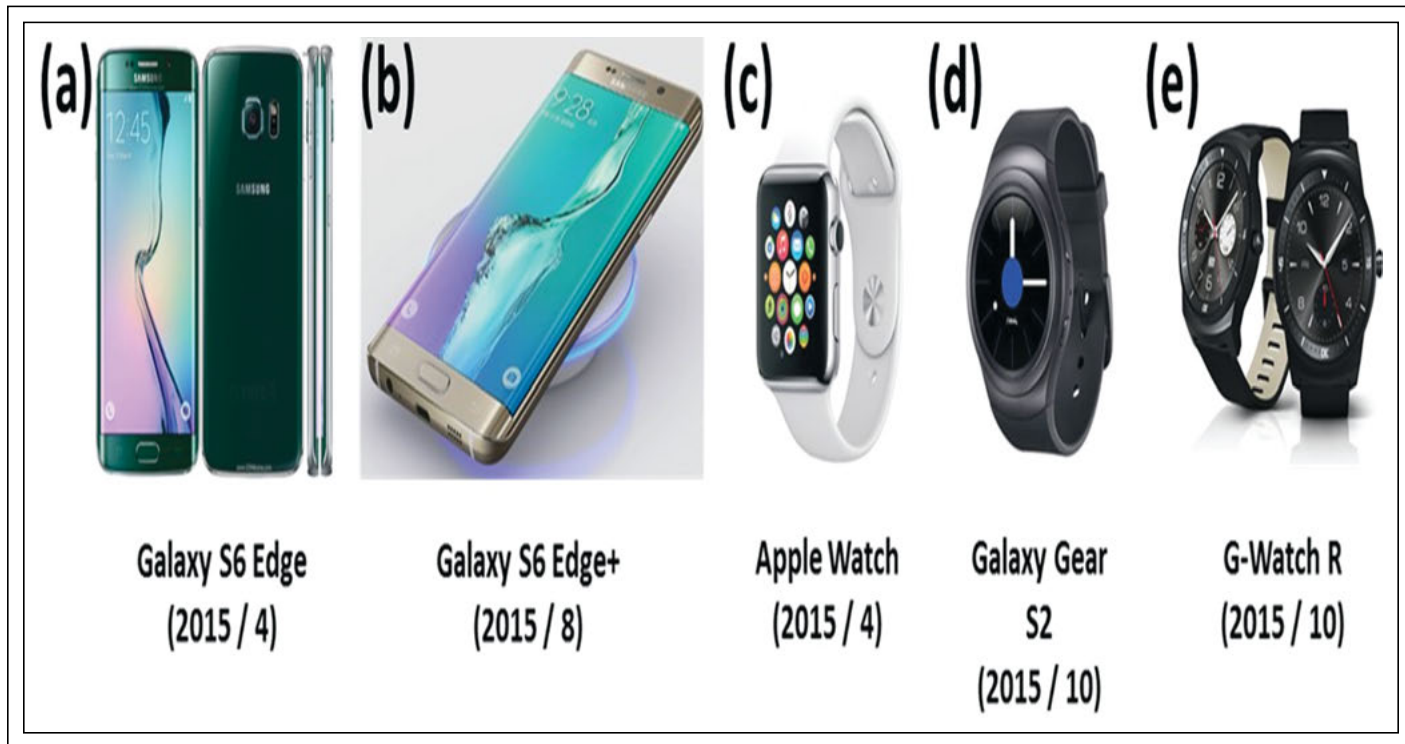

Fig. 1: These commercialized AMOLED products on PI substrates came out in 2015. The AMOLED displays were manufactured by Samsung (a,b,d) or LG (c,e).
FLEXIBLE DISPLAYS based on active-matrix organic light-emitting diodes (AMOLEDs) have been receiving increased attention recently. The thin-film-transistor (TFT) backplane necessary for flexible OLED displays can be realized with low-temperature polycrystalline silicon (LTPS) or oxide semiconductors because of the high performance of these materials. But amorphous-silicon (a-Si:H) TFTs have an inherent issue of threshold-voltage (V_{th}) shift during OLED operations, so they cannot be used for AMOLED displays. Recent AMOLED products on polyimide (PI) substrates have been based on LTPS-TFT backplanes manufactured using the excimer-laser-annealing (ELA) process, which requires high capital investment and high-manufacturing cost (see Fig. 1 for AMOLED products, including smartphones and smart watches, launched in 2015
tion with frit sealing around the perimeter of the display to prevent moisture and oxygen from entering the OLED panel.¹ In general, this encapsulation needs to achieve a water-vapor transmission rate (WVTR) of $\sim 10^{-6}$ g/m²/day for an AMOLED device to pass its reliability tests, which guarantees 5 years of lifetime. An AMOLED display with glass encapsulation is generally as thick as 7 mm [as shown in Fig. 1(a)]. Even though a thinner panel could be achieved with additional glass-
Fig. 1: The structure of a conventional glass-based AMOLED display is shown in (a). The structure of a current flexible AMOLED display (not drawn to scale) appears in (b).
the glass layers, which, in turn, re-introduces the problem of environmental contamination. Special steps must be taken in order to create a flexible-display stack that is also able to achieve sufficient barrier protection. In general, the core of a flexible AMOLED display has the structure shown in Fig. 1(b), where a top-emission AMOLED display is composed of a substrate with a TFT array deposited with OLED layers and thin-film encapsulation (TFE) on the top. Currently, LTPS-TFT is the most common TFT back-plane, due to its higher mobility and better electrical performance compared to other technologies such as amorphous silicon or IGZO.² A circular polarizer is then laminated above the TFE layer and the bottom of the substrate is laminated with a supporting back film. As mentioned earlier, the function of the TFE layer is to protect the AMOLED device from the interaction of oxygen and moisture and obtain the WVTR property of 10^{-6} g/m²/day. Without an additional moisture- and oxygen-blocking layer, none of the plastic layers alone is enough to protect the AMOLED materials properly. Therefore, it is critical to develop a TFE layer structure that can achieve the WVTR requirement.
Adding a circular polarizer to the top of the stack, as shown in Fig. 1, has advantages and disadvantages. The function of a circular polarizer is to filter out ambient light. Because the top of the OLED region consists